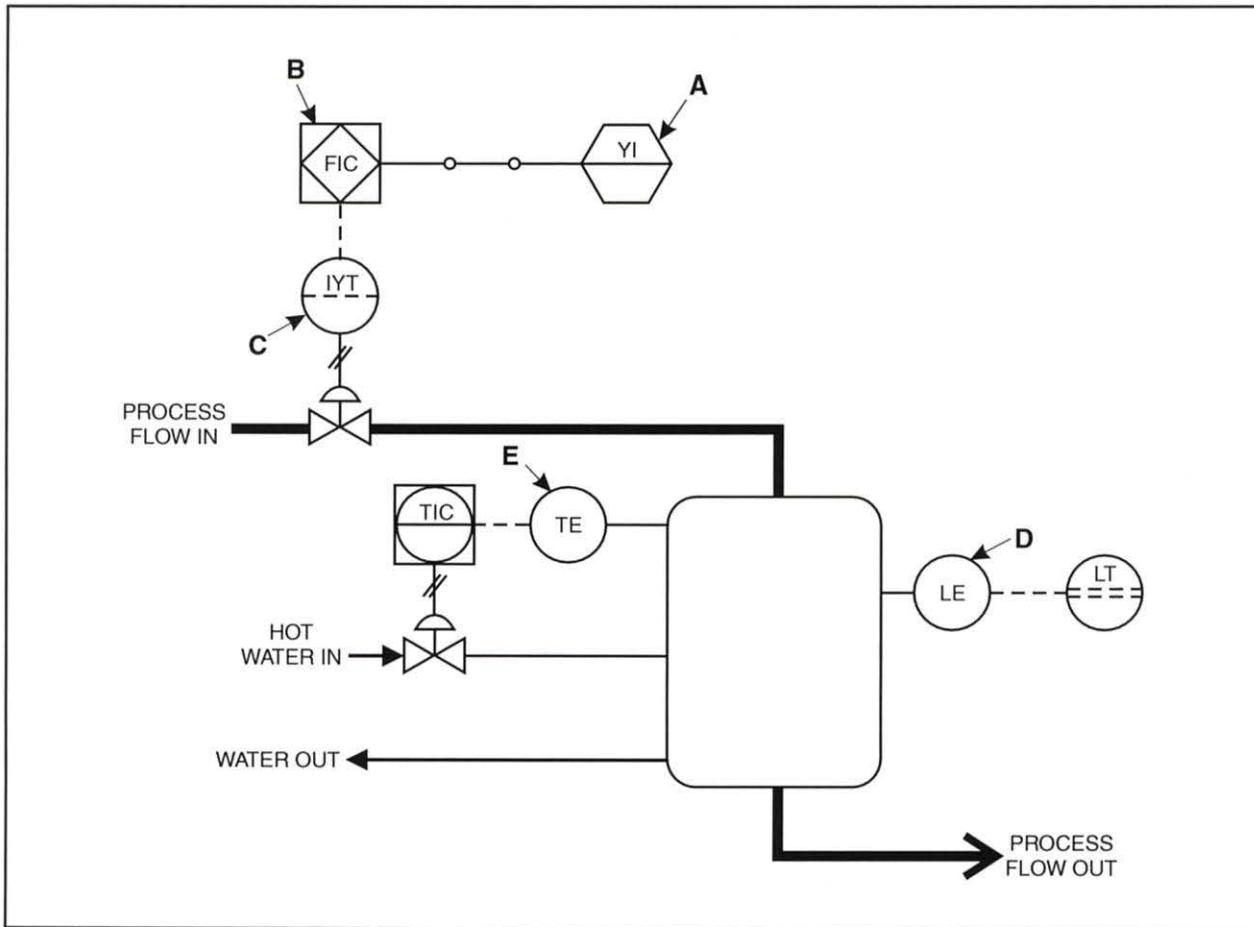

Figure 59. Instrument Tag
□ 16. Determine the measured variable indicated by each tag identified in figure 59.